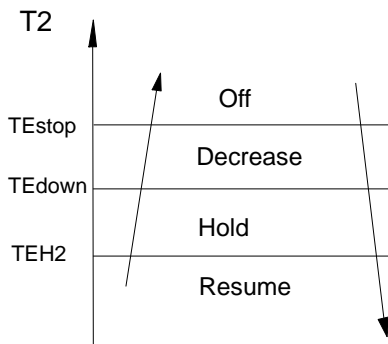

Fig. 24 – Evaporator Coil Temperature Protection
**NOTE:** The following applies to Fig. 24: